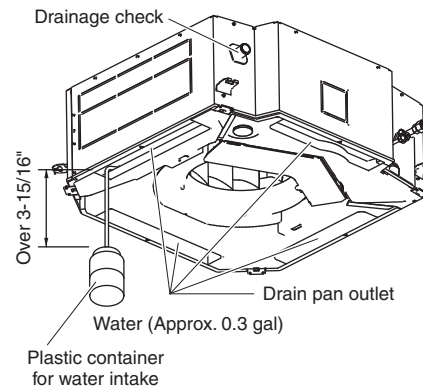

Fig. 3-12
- (1) Connect power to the power terminal board (R, S terminals) inside the electrical component box.
- (2) Slowly pour approx. 0.3 gal of water into the drain pan to check drainage. (Fig. 3-12)
- (3) Short the check pin (CHK) on the indoor control board and operate the drain pump. Check the water flow through the transparent drain pipe and see if there is any leakage.
- (4) When the check of drainage is complete, open the check pin (CHK) and remount the tube cover.